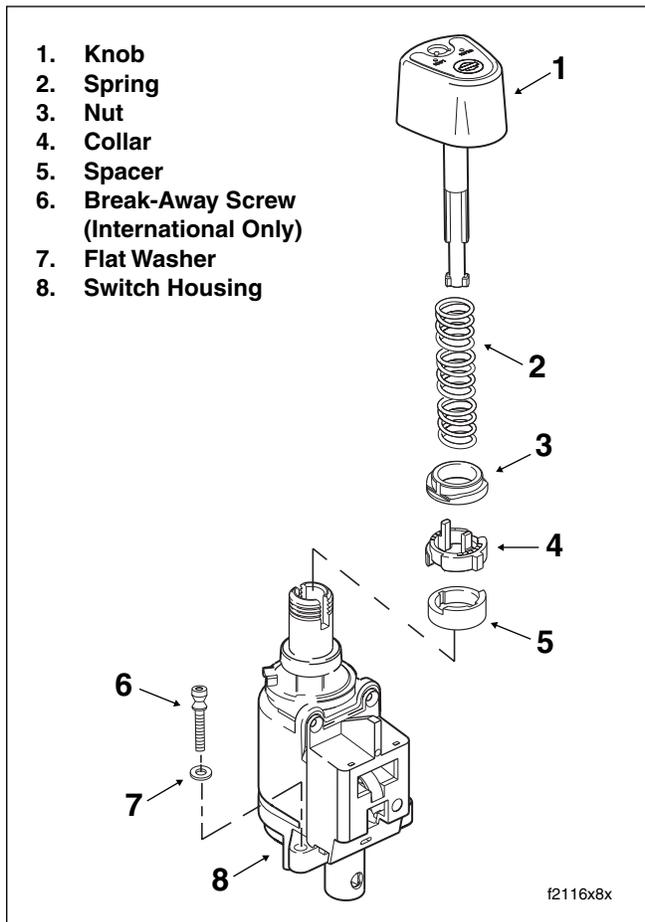

Figure 8-76. Ignition Switch Assembly (International)
- Remove ignition switch housing from bore of upper fork bracket. See Figure 8-76.
7. Install spacer over threaded post of ignition switch housing until it contacts switch position plate. Orient spacer so that the widest side is forward and the inside tabs fit in slots of post. See Figure 8-76.